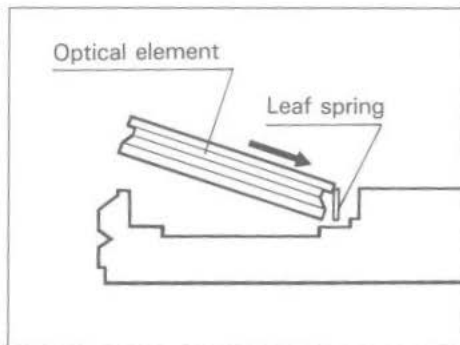

Fig. 4
- (1) Follow steps (1) through (3) of section **1**, above.
- (2) Aligning the positioning dot ① of the Nomarski prism with the positioning dot ② of the turret aperture, insert the Nomarski prism in the turret aperture, as far as it will go, so that the positioning pin of the Nomarski prism is inserted into the pin hole correctly. Slightly depress the leaf spring ③ inside the turret with the side of Nomarski prism, during insertion. (Figs. 4, 5)